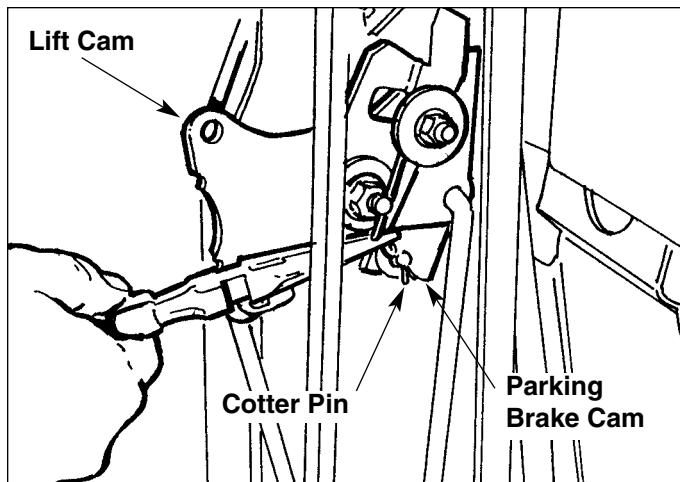

Figure C-8. Remove Parking Brake Rod Cotter Pin & Washer (Assembled Position Shown)
*NOTE: The lift cam (Figure C-8) remains attached to the upper lift link. See Hand Controls Section for part position and placement.*